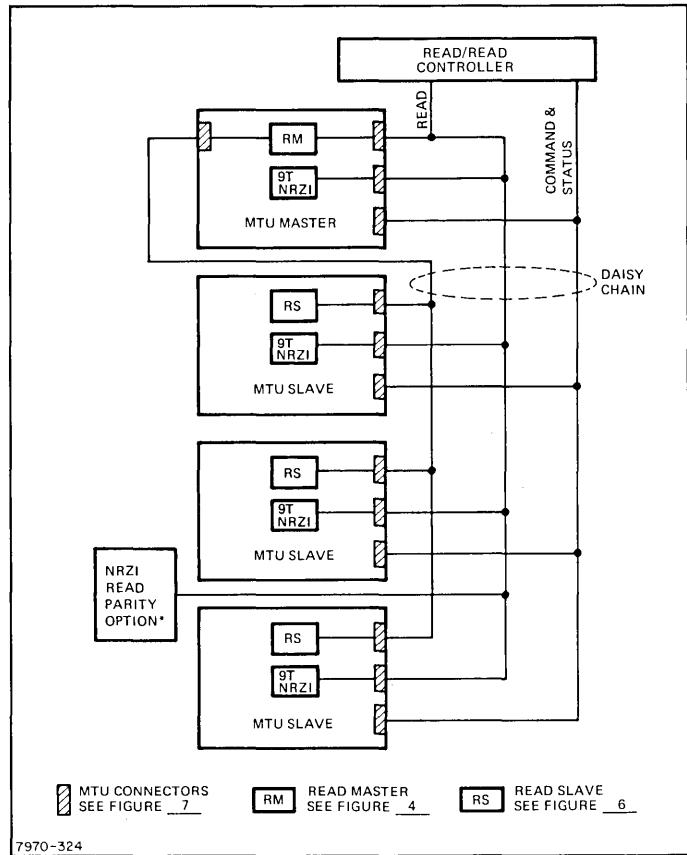

Figure 3a. Read/Read 9-Track PE/NRZI Configuration
- (1) Read/Read 9-Track PE/NRZI (Figure 3a). Both master and slave units contain the same command-and-status and NRZI read electronics. Complete PE read data electronics is contained only in the master unit. The PE and NRZI controller interfaces may be used as separate connectors (figure 7), or in parallel from the PE connector when the parity option is used (figure 3a). This is accomplished by the daisy-chain method shown in figure 3a. Slave unit read capability is accomplished through the master unit for multi-unit parallel-connection operations. A constant transfer rate option is available in this configuration if a constant data transfer rate between PE and NRZI is required. Density selection is front-panel selectable.